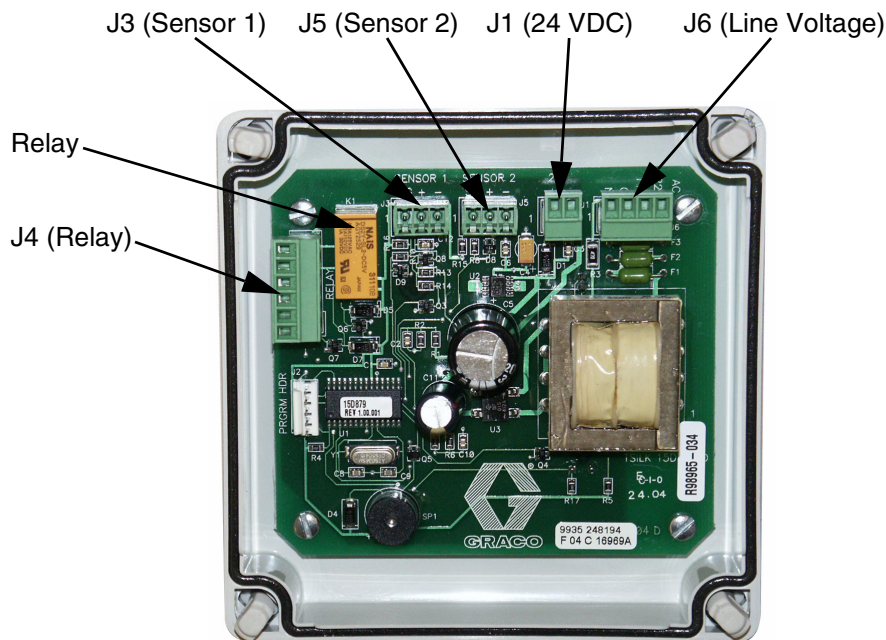

FIG. 6
The relay has two sets of contacts that can be used to indicate an error by turning off a valve, lighting a light, etc. The contacts are located at J4 on the circuit board. See FIG. 6.
AC power is connected to J6 on the circuit board. The ground connection is the pin between the pins N and 110. See FIG. 6.
- c. To operate from 24 VDC, connect to J1. J1 is marked for positive and negative polarity. Disconnect any power to the AC connector J6 if the system is to be powered by 24 VDC. See FIG. 6.
7. Connect an external ACPRH, air valve, etc. to the internal relay (CRS), if desired, using J4. See FIG. 6.
- R is Reset, which is connected to Common during normal operation. (NO)
- S is Set, which is connected to Common when an error is detected. (NC)
2. When the Leak Detector is powered by 230 VAC or 110 VAC, ground the Leak Detector by connecting the ground wire to terminal G on terminal J6. See FIG. 6.